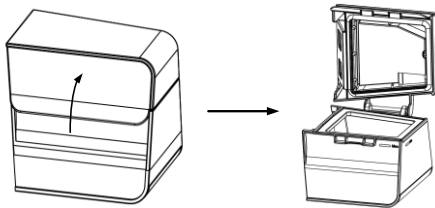
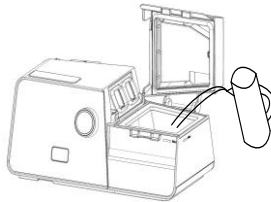

Fig. 14-2
Fig. 14-3
- (1) Open the cap, as shown in Fig. 14-2, and fill the water chamber with approximately 360 mL of water, as shown in Fig. 14-3. Make sure that the water does not exceed the maximum water level line.